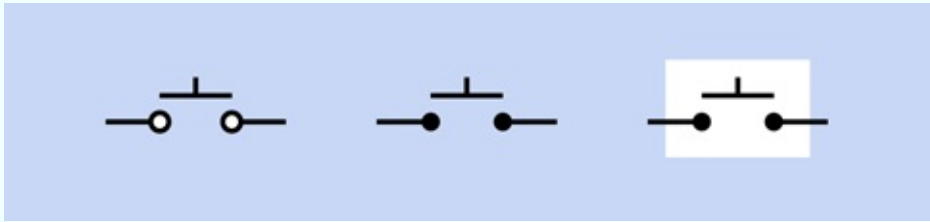

Figure 2-46. Three variants of the pushbutton symbol. The white rectangle is added in this book for clarity, but is not used elsewhere.
5. Pushbutton. Three possible pushbutton symbols are shown in Figure 2-46. These symbols represent the most common type of normally open pushbutton or momentary switch, where pressure closes two contacts and release of the pressure opens the circuit. In more complex pushbuttons, where a single button press closes or opens numerous contacts, the symbol for a multi-pole switch may be used.